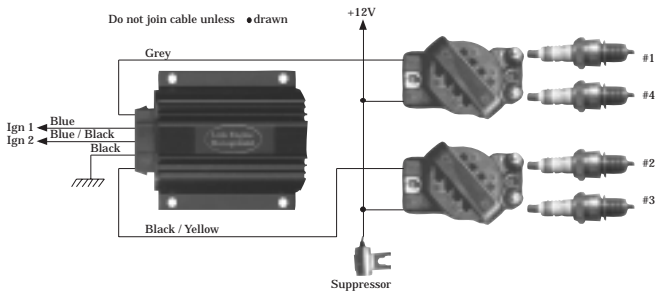

Figure 14.1 Wasted spark wiring diagram. Firing Order 1, 3, 4, 2.
Figure 14.1 illustrates the wasted spark hardware and wiring layout. The dual post coils and igniter should be mounted before any wiring is started.
The coils should be positioned such that it minimises the length of the HT Leads. This will help reduce the noise generated when the spark plug is fired. Coil 1 shown in Figure 14.1 will provide spark energy to cylinders 1 & 4 while Coil 2 will fire cylinders 2 & 3. Once mounted the HT leads should be fitted, ensuring each cylinder is connected to the correct coil.
The Igniter module is a device used to switch the Coils off or on by supplying a ground for the coil negative. This is shown in Figure 14.2. The signal used to control this is fed from the Integra/CivicLink, labelled 'IGN1' and 'IGN2' in Figure 14.1. As the igniter will be carrying coil primary current when switched on, it **MUST** be mounted inside the engine bay and placed as close as possible to the coil pack. **DO NOT** mount the igniter inside the passenger compartment or close to hot engine components such as exhaust manifolds.
Lastly always fit a Coil suppresser to the coil positive as shown in Figure 14.1. Any value between 1uF and 10uF will be suitable.
Assuming the Coils and Igniter have been mounted the wiring can now be started. Refer to Figure 14.1 for information.
- Lastly connect the Grey wire on the Link Igniter loom to the Coil 1 negative terminal and the Black/Yellow wire to the Coil 2 negative terminal. Remember to supply +12V to the Coil positives and fit the Coil suppresser as shown in Figure 14.1. Remember to connect the black wire in the igniter loom to ground.